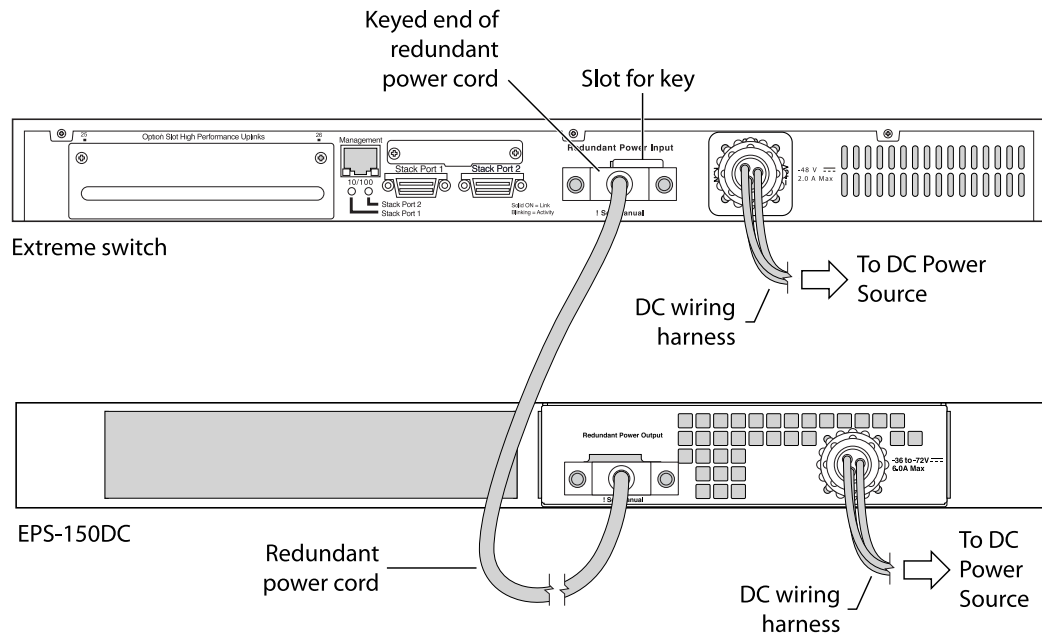

Figure 299: Connecting an EPS-150DC Unit to a Switch
3. Holding the keyed connector so that the side labeled “Top” is facing up, connect the EPS-150DC redundant power cable to the power supply unit (see Figure 299 on page 368).